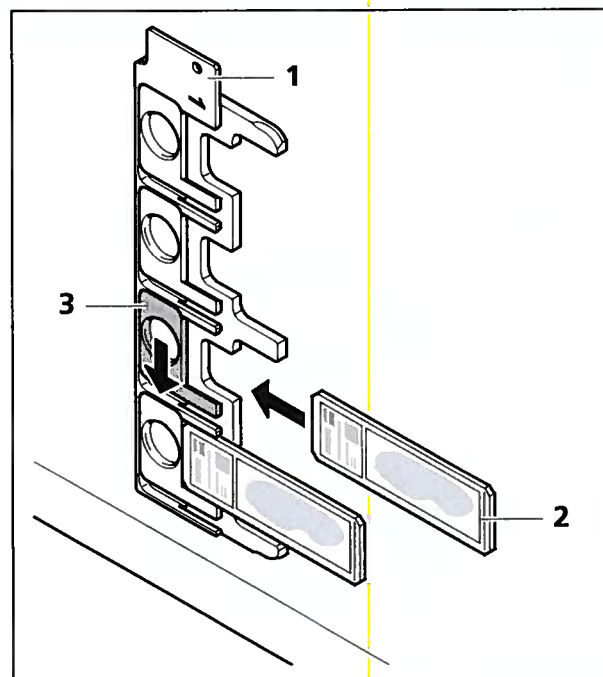

Fig. 4-4 Inserting slides into mounting frames 4x 26 mm x 76 mm
- Set the mounting frame (Fig. 4-4/1) upright as shown in Fig. 4-4 and hold with one hand.
- Push the spring-mounted silver catch (Fig. 4-4/3) at the corresponding position downwards with the thumb.
- Insert the slide (Fig. 4-4/2) into the mounting frame **until it engages** with the barcode side first and facing forwards.
- Release the catch (Fig. 4-4/3) so that the slide is firmly clamped.
The mounting frame has an area containing the coding of the mounting frame (Fig. 4-4/1). Care must be taken to ensure that this area is not covered in any way (e.g. by labels)!